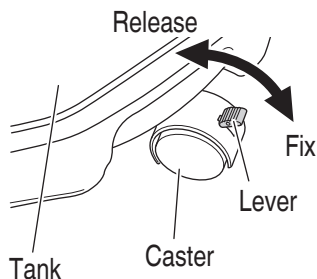

Fig. 25
- (2) Fixation and release of the caster (see **Fig. 25**)